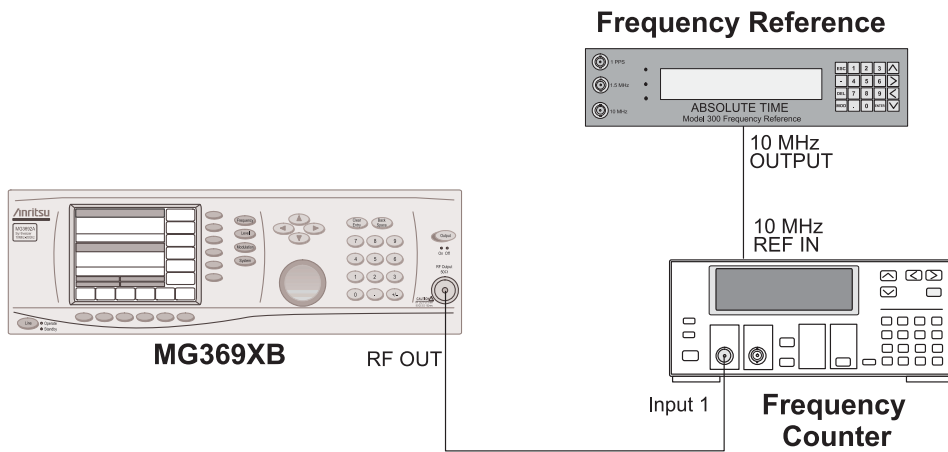

Figure 4-3. Equipment Setup for 10 MHz Reference Oscillator Calibration
- a. Connect the equipment as shown in Figure 4-3.